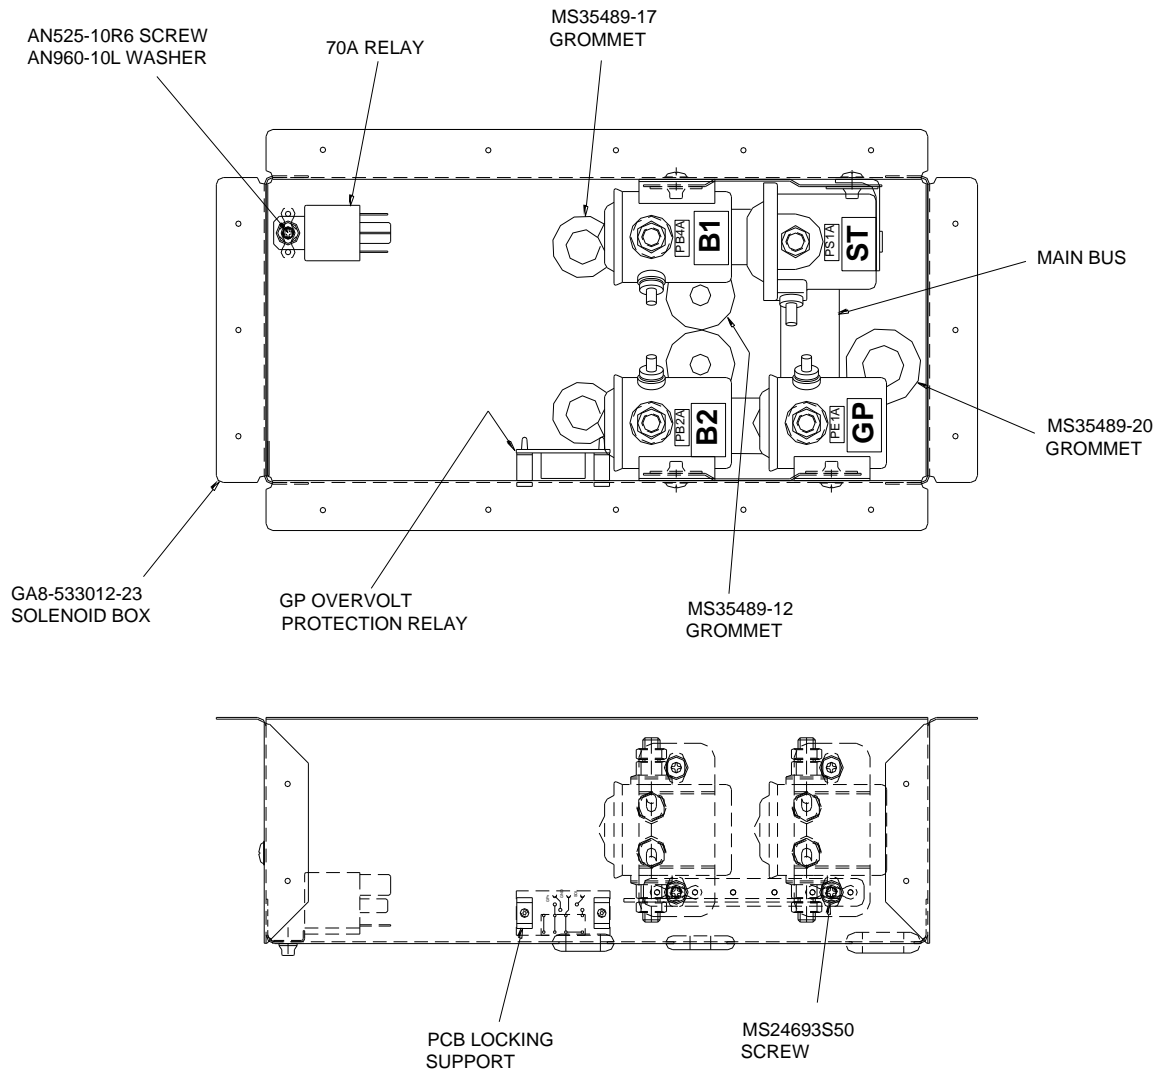

Figure 7-4 – Solenoid box fit-out
12. Fit all parts removed in step 6 into the new elongated solenoid box per Figure 7-4.